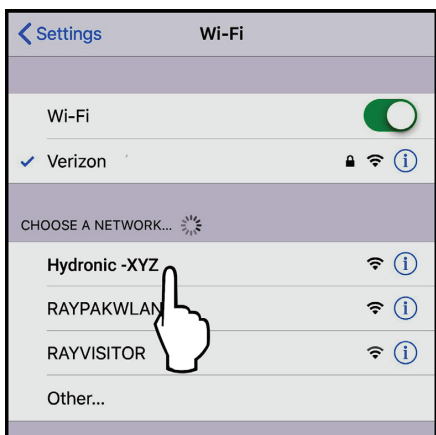

Figure 94. Select the HOTSPOT Identifier
- Select the HOTSPOT identifier that matches the unit's Touchscreen as shown in **Figure 94**.